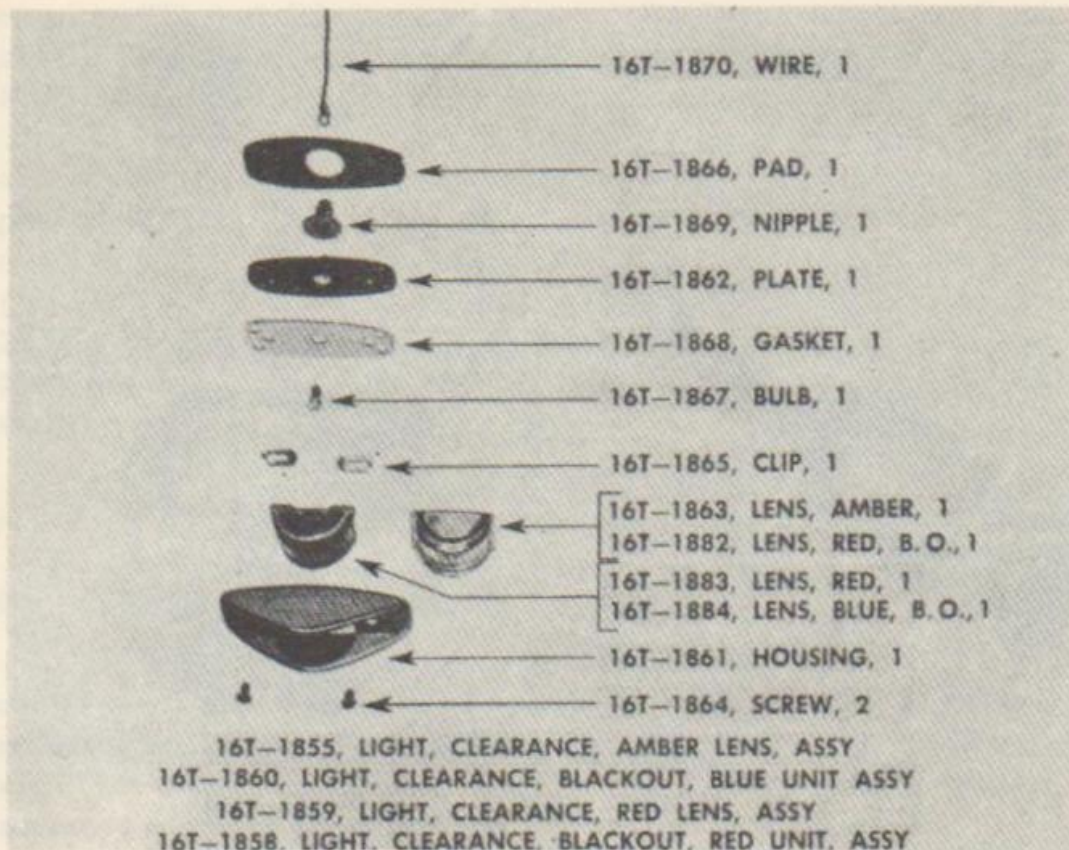

FIGURE 66. CLEARANCE LIGHT—EXPLODED VIEW
a. **Removal** (fig. 66). Removal procedure for standard and blackout clearance lights is identical. Turn the two screws holding the lens housing to the light assembly in a counterclockwise direction until the housing is free on the assembly. Pull the clip which holds the lens to the housing toward the outer edge of the housing and lift the lens out. Remove the lamp and lift the gasket off the plate. Remove the four screws from the plate and pull the assembly out of the frame. Disconnect the short wire from the main line, and separate the pad from the plate.